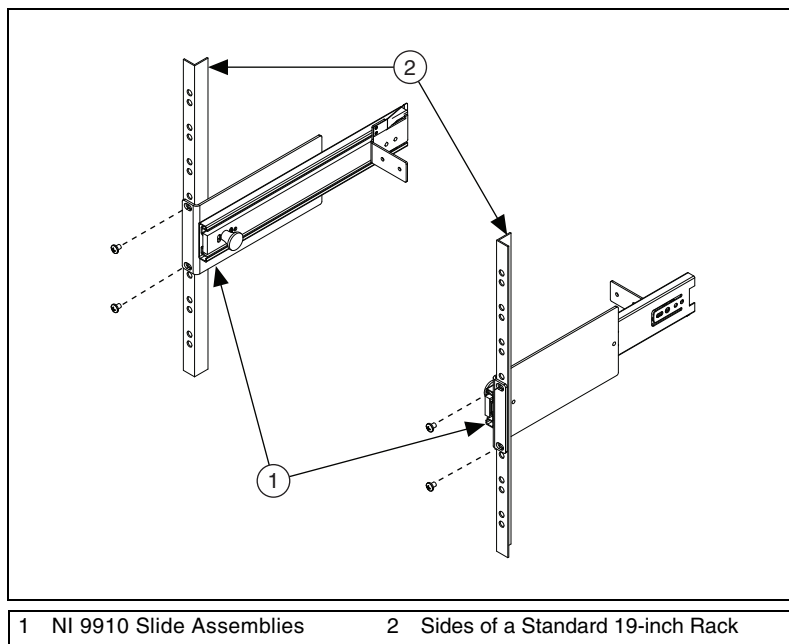

Figure 2. Attaching the Slide Assemblies to a Standard 19-inch Rack
1. Use a #2 Phillips screwdriver and the four #10-32×3/8 screws to attach the two slide assemblies of the NI 9910 to a standard 19-inch rack, as shown in Figure 2. The NI 9910 slide assemblies are symmetric, allowing each to be mounted on the left or right side of the rack.